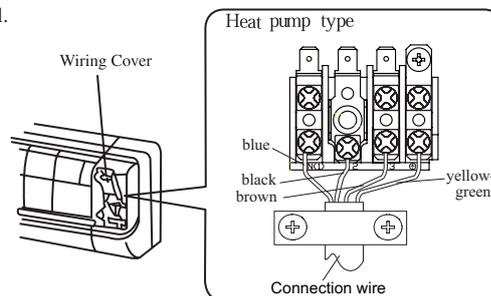

Fig.6
2. Remove the wiring cover (Fig.6).